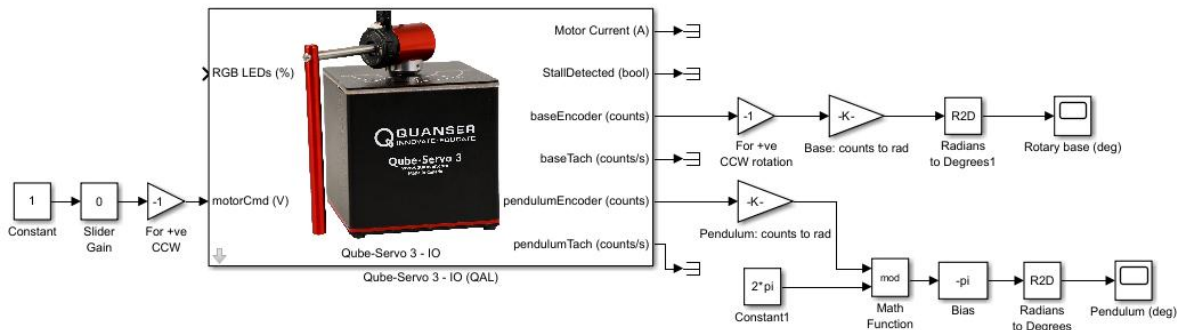

Figure 2: Simulink model that includes the modulus and bias blocks.
10. Add a **Modulus** and **Bias** block to the Simulink model so that the pendulum angle α is 0 rad in the upright position and is bounded by $\pm\pi$ rad. The model should look similar to Figure 2 below: